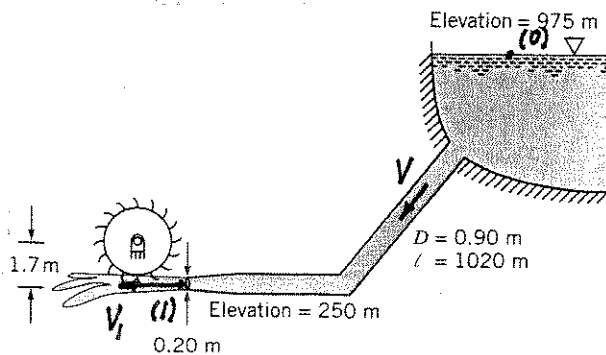

FIGURE P12.66
12.66 Water for a Pelton wheel turbine flows from the head-water and through the penstock as shown in Fig. P12.66. The effective friction factor for the penstock, control valves, and the like is 0.032 and the diameter of the jet is 0.20 m. Determine the maximum power output.